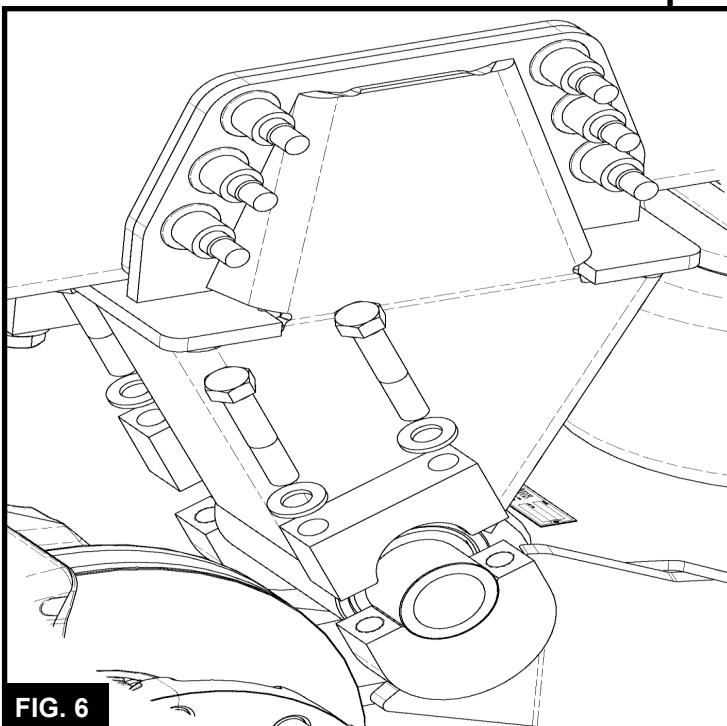

FIG. 6
- 6.6 Remove the 1" bolt and washer that fasten the clamp blocks around the hanger bushing (See FIG. 6).